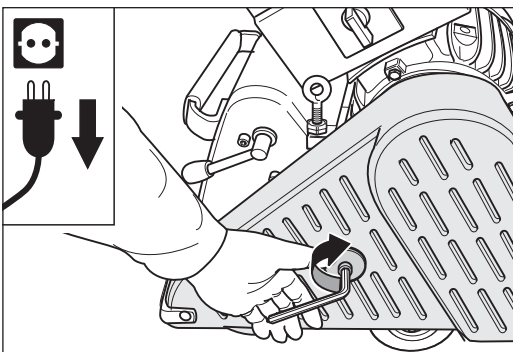

Fig. 102 Close the belt guard.
- 9 Close the belt guard (fig. 102).